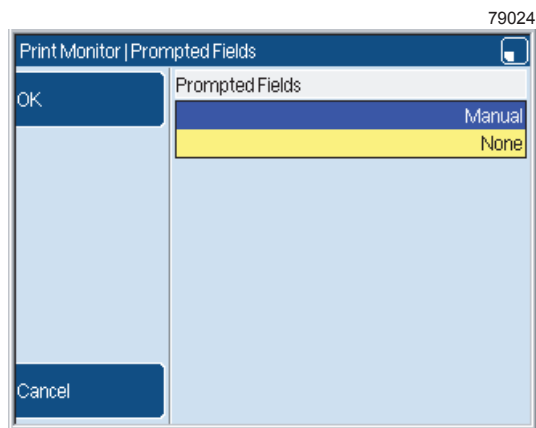

Figure 32. Prompted Fields page: default setting
- 2 Select the **Prompted Fields** option to display the **Prompted Fields** page, as shown in Figure 32.